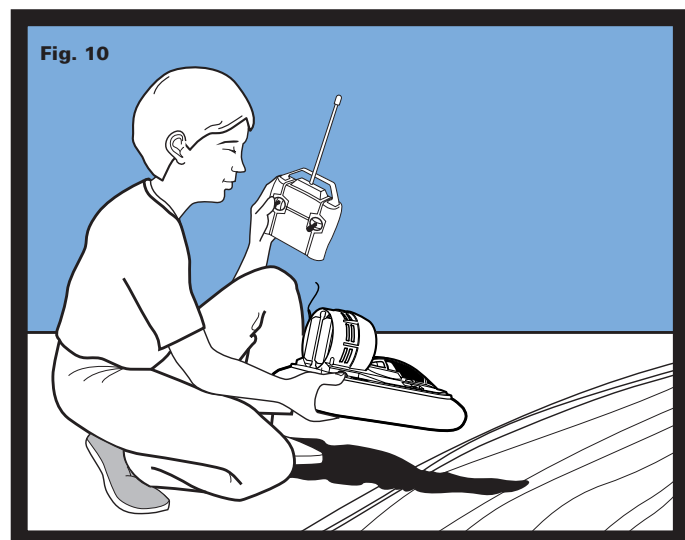

Fig. 10
2. Hold hovercraft as shown. Make sure lift fan is at full speed and air bag skirt is fully inflated. Carefully place hovercraft on water. (Fig. 10)